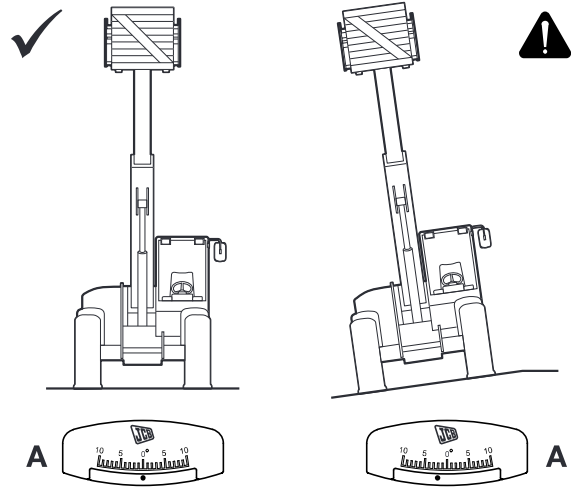

Fig 149.
It is recommended that the machine should be operated on firm, level ground wherever possible for maximum machine stability. → Fig 149. (148)